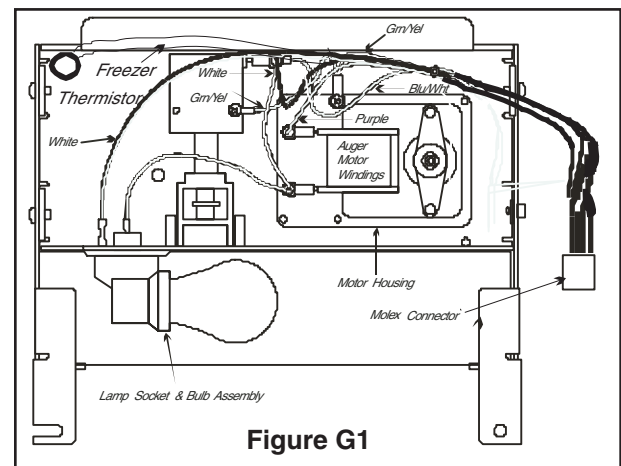

Figure G1
5. Remove screw securing green ground wire to motor housing on back of Motor Cover. (See Figure G1)
6. Disconnect two (2) leads hooked to Auger Motor windings (Leads are purple and white - See Figure G1).
to Solenoid Assembly on the back of Motor Cover. (See Figure G1)
6. Disconnect two (2) leads hooked to solenoid coil (Leads are blue with a white stripe and white - See Figure G1).